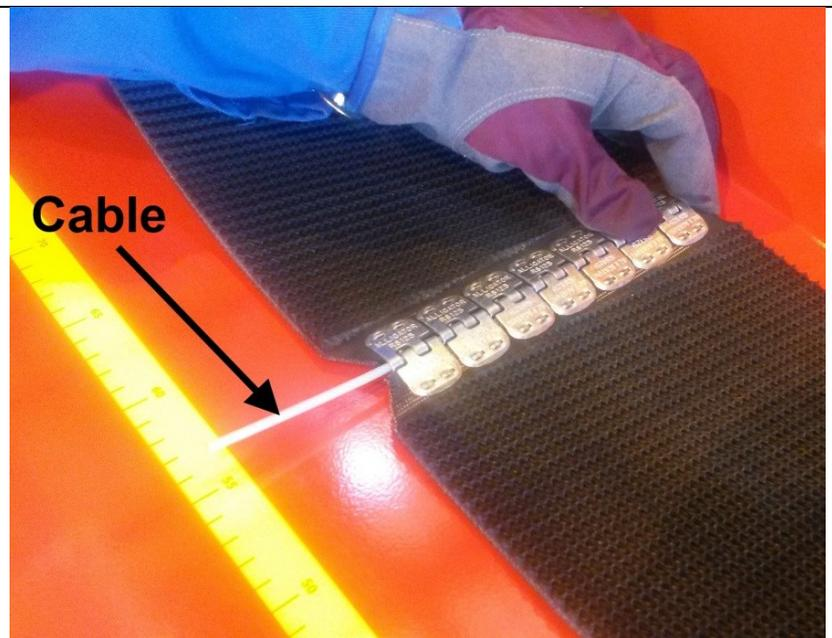

Figure 1.
3. Raise the input conveyor into the transport position and pull the input conveyor's connecting wire (Figure 1) out of the coupling.